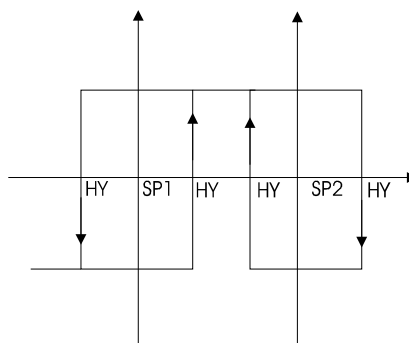

Fig. 4
b) **SP2**: Setting of the second commutation point of the window threshold (see fig.4).
- Window triggering threshold see fig.4